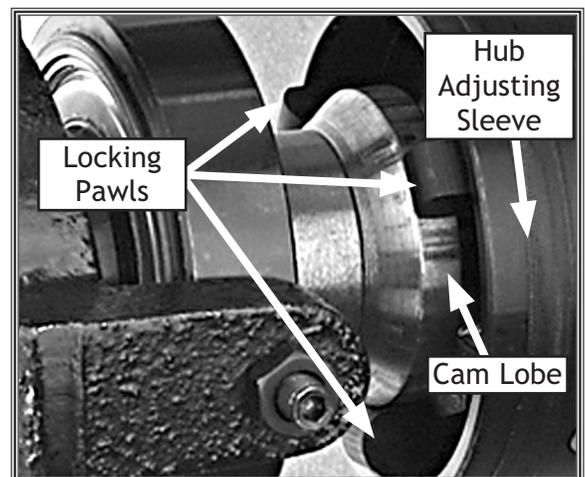

Figure 13. Locking pawls in locked position on the cam lobe.
3. Turn the hub adjusting sleeve in or out so the locking pawls align properly on the flat surface of the cam lobe (see **Figure 13**).
The Model M1023 Quick Change Collet Attachment is adjusted properly when the three locking pawls are tight on the cam and the workpiece will not twist in the collet. **Figure 13** on **Page 7** shows the proper locked position of the locking pawls around the cam.